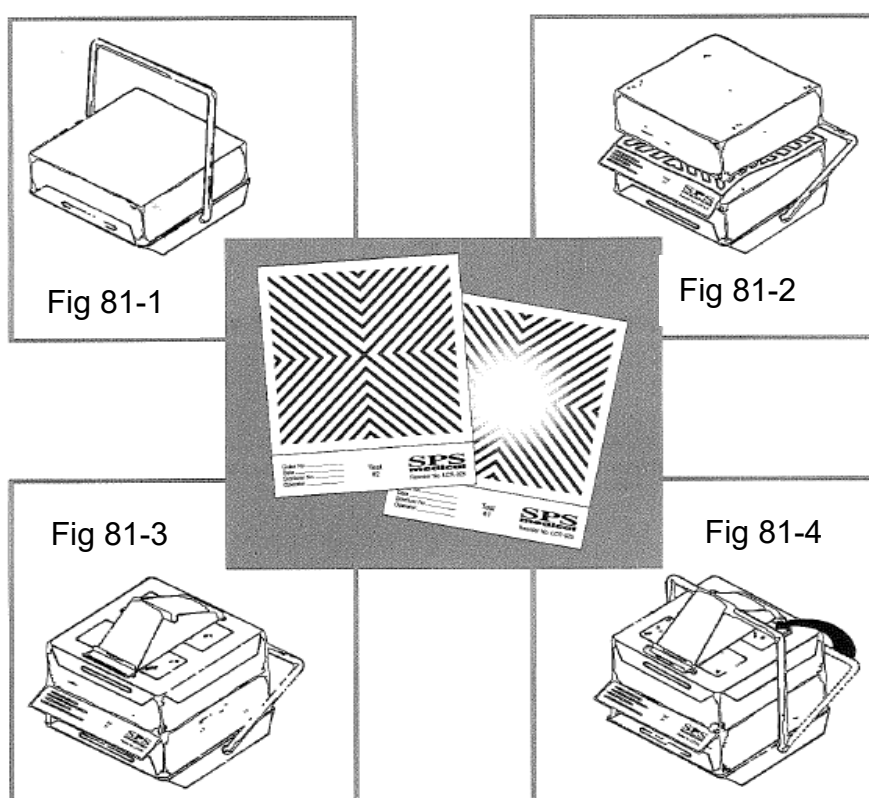

Figure 81
1. Assembly of the cube is reference Figure 81.